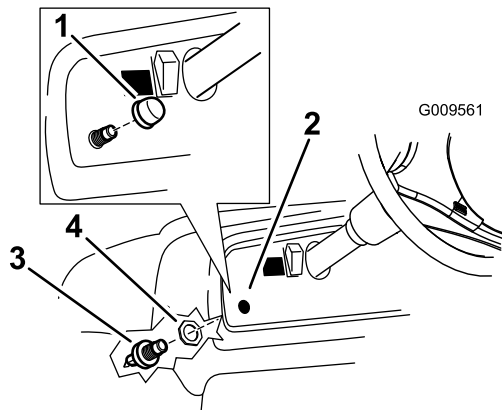

Figure 4
3. Install the horn button to the dash panel as shown in Figure 4. Secure the horn switch to the dash by threading on the rubber horn button.